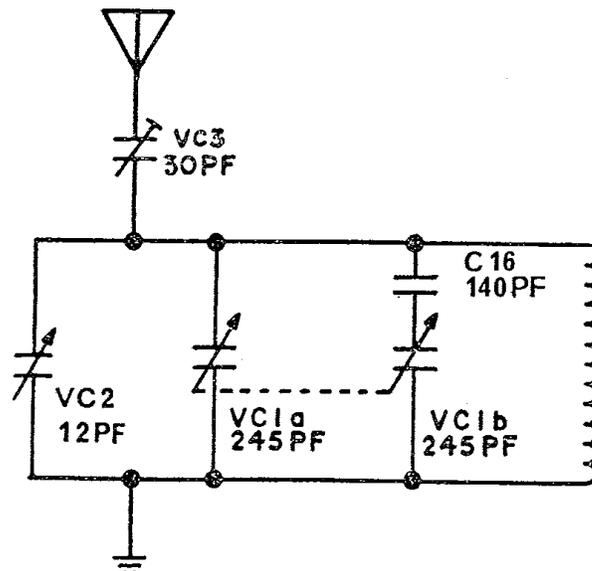

Figure 9 Tuning Circuit for Broadcast Band, Simplified
If the other three band coil were not in the circuit, the simple tuning circuit for the broadcast band would be as shown in Figure 9. In this simplified circuit, the signal from the antenna is coupled into the tuning circuit through 30 pF capacitor VC 3. A condition of resonance is produced in the inductive-capacitive (LC) tuning circuit. The tuning circuit consists of the MAIN TUNING capacitors VC1a and VC1b in parallel with the primary winding of the band D coil. The series combination of the variable BANDSPREAD capacitor VC2 provides a small amount of additional capacitance which is used for fine tuning over small areas of selected bands.